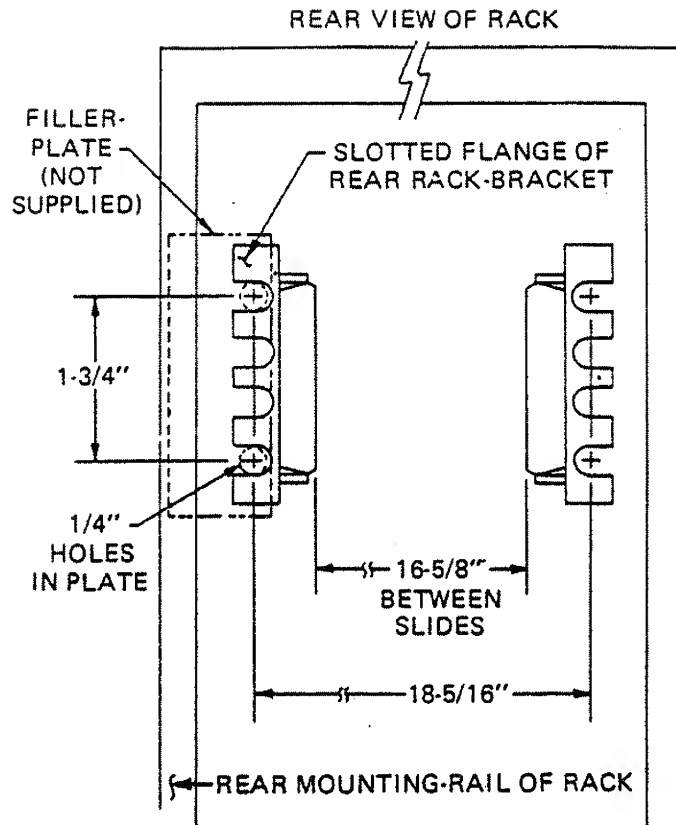

Figure 2.5 - Rear End Slide-Mount Rack Dimensions
- f. The distance between the two slide-mount assemblies at the rear-bracket should be 16 5/8 inches. Should a filler plate be required to secure the slide-mount assembly to the rear rack mounting-rail at 16 5/8 inches, use the dimensions given in Figure 2.5 to determine filler-plate size